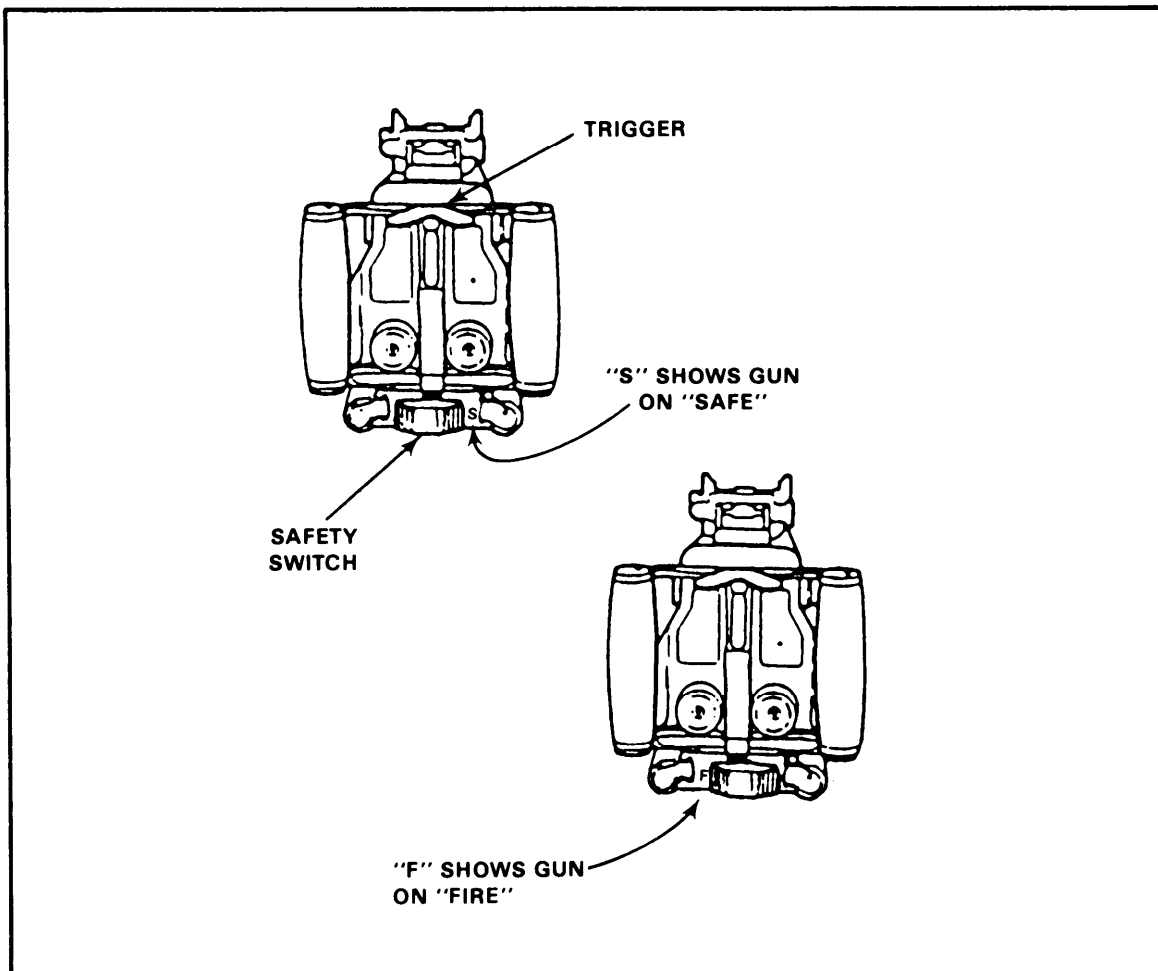

Figure 2-1. SAFE ("S") position.
(1) Move the safety switch to SAFE ("S") (Figure 2-1). If all the ammunition has NOT been fired, the bolt is to the rear and a round is on the bolt face.
(6) Inspect the chamber and bolt face again to ensure that no live rounds are in the weapon.
(7) Place the safety switch on FIRE ("F") (Figure 2-1).
(8) While maintaining rearward pressure on the charging press the trigger and ease the bolt forward.
(9) Place the safety switch on SAFE.
(1) Place the safety switch on SAFE (Figure 2-1).
(2) Open the top cover assembly.
(3) Lower one charger handle.